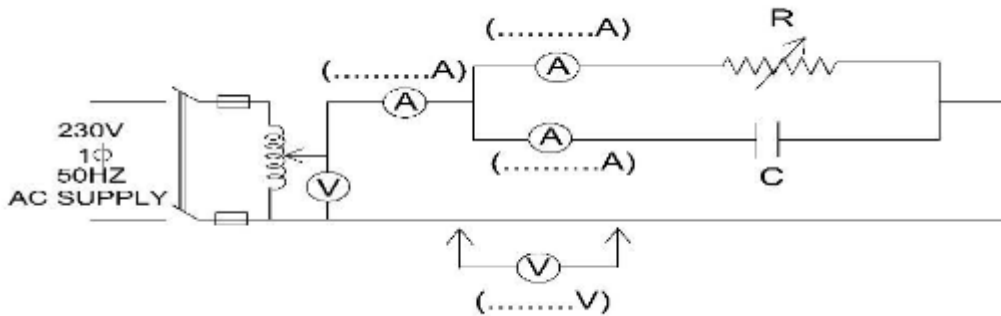

Fig: 23.2: R-C Parallel circuit diagram
1. Connect the circuit as shown in figure .23.2